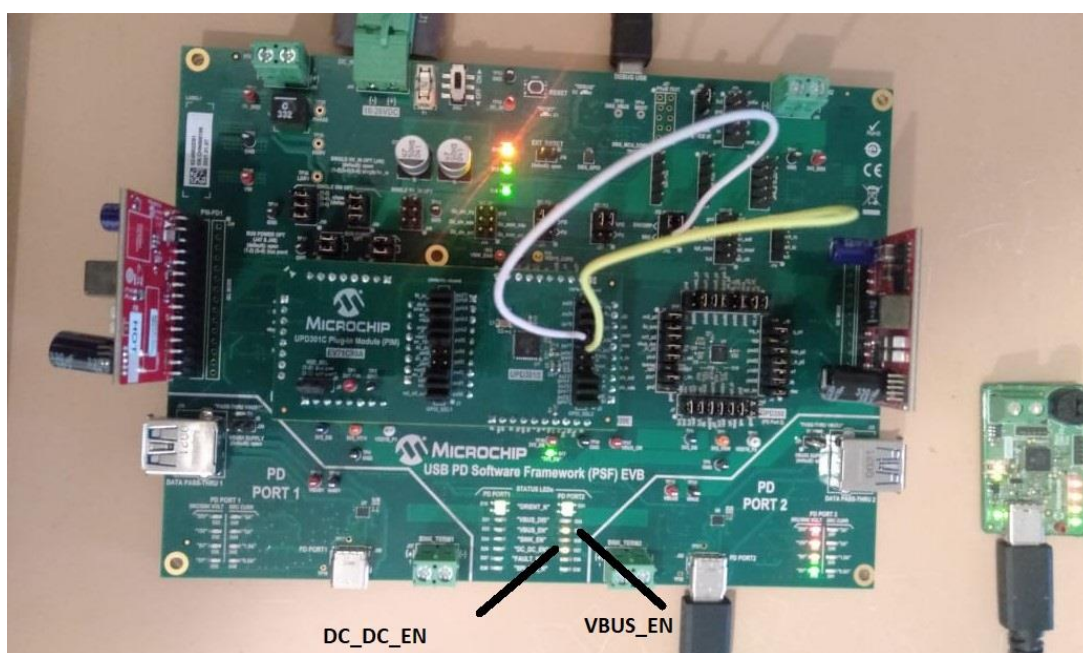

Figure 7.2 Status of VBUS\_EN, DC\_DC\_EN and PDO LEDs when attached as Source
4. Once an explicit power contract negotiation is in place, the device starts charging. PDO status LEDs will turn on indicating the negotiated voltage as shown in Figure 7.2